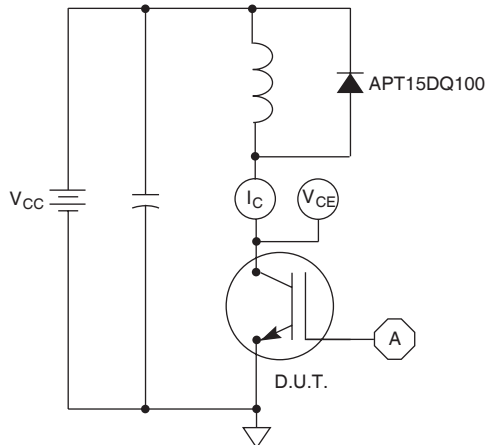

Figure 21, Inductive Switching Test Circuit
① Repetitive Rating: Pulse width limited by maximum junction temperature.
② For Combi devices,  $I_{oes}$  includes both IGBT and FRED leakages
③ See MIL-STD-750 Method 3471.
④  $E_{on1}$  is the clamped inductive turn-on energy of the IGBT only, without the effect of a commutating diode reverse recovery current adding to the IGBT turn-on loss. Tested in inductive switching test circuit shown in figure 21, but with a Silicon Carbide diode.
⑤  $E_{on2}$  is the clamped inductive turn-on energy that includes a commutating diode reverse recovery current in the IGBT turn-on switching loss. (See Figures 21, 22.)
⑥  $E_{off}$  is the clamped inductive turn-off energy measured in accordance with JEDEC standard JESD24-1. (See Figures 21, 23.)